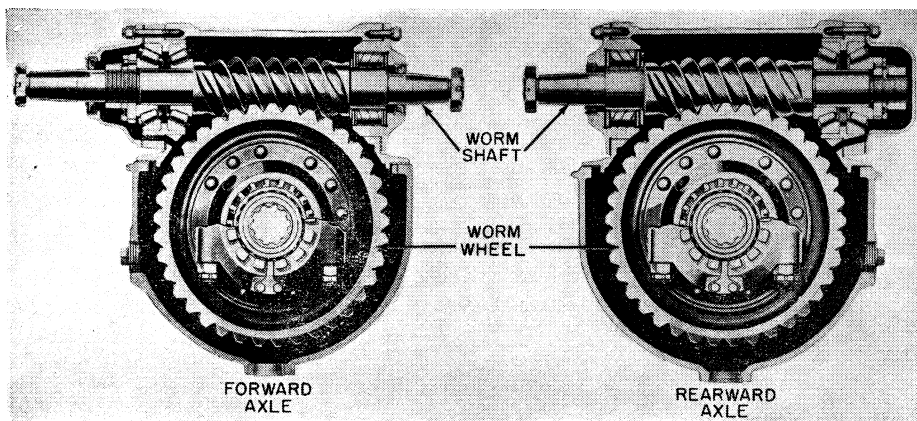

Fig. 118 Timken worm drive tandem axles
Fig. 118—These axles are heavy duty, four wheel tandem drive, worm gear, single reduction, full floating type. The front and rear axles of this tandem unit are of similar construction. This tandem axle unit is the "through drive" type in which engine torque is directly transmitted from the forward driving axle to the rear driving axle. These are connected with an intermediate propeller shaft.
13. Install differential carrier assembly in axle housing—facing proper direction, Fig. 118. Use new gasket and fasten securely, using tapered dowels, lock washers and nuts.